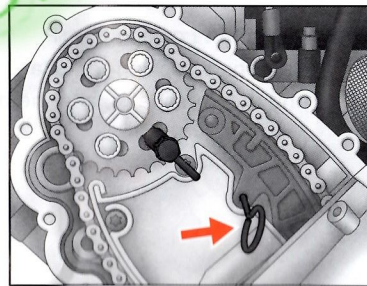

Fig.26
- (5) Select the appropriate Tensioner Retaining Pin (Part No.I or J). Press the chain tensioner rail, compressing the tensioner plunger and retain in place using Tensioner Retaining Pin (Part No.I or J). (Fig.26)